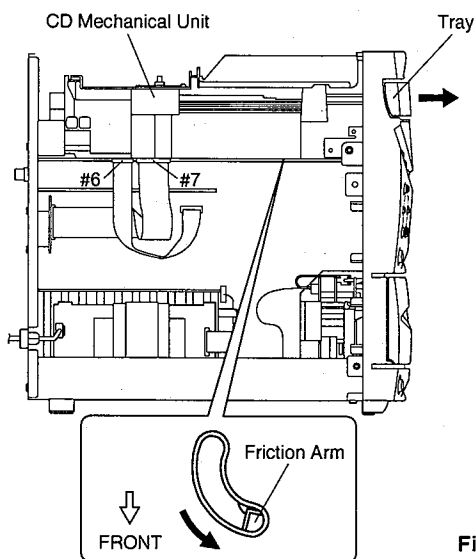

Fig. 2
- Push the Friction Arm (the bottom side of the CD Mechanical Unit) with a screwdriver or the like as shown in Fig. 2.
- Disconnect the Flat Connecting Cables (#6, #7) in Fig. 2